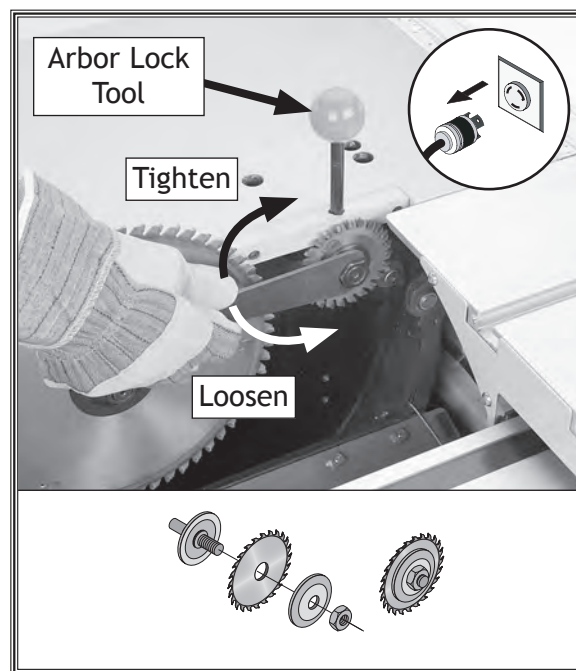

Figure 63. Removing the scoring blade.
5. To remove the scoring blade, insert the arbor lock tool in the table (**Figure 63**), rotate the scoring blade to seat the arbor lock tool, and use the arbor wrenches to remove the arbor nut and arbor flange.
6. Install the new scoring blade as shown in **Figure 63**, tighten the arbor nut, and adjust the scoring blade alignment and height as necessary.